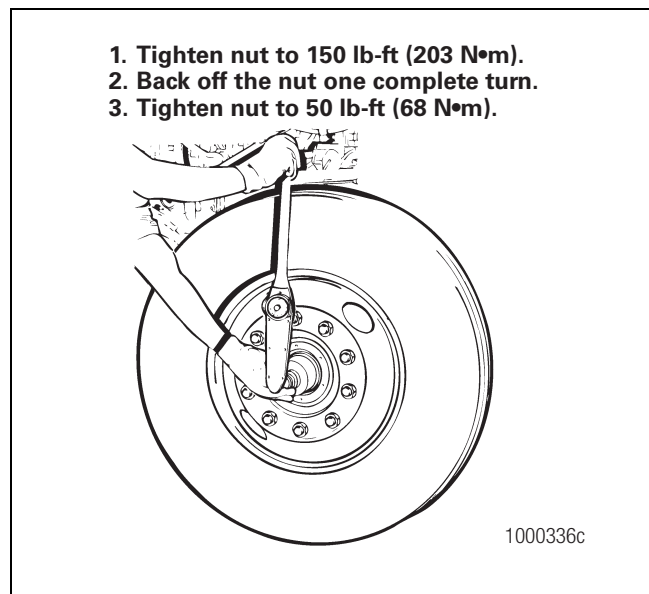

Figure 7.5
- Use a torque wrench to tighten the adjusting nut to 150 lb-ft (203 N•m) while rotating the tire a minimum of five revolutions. Figure 7.5.
- Back off the nut one complete turn. Tighten the nut to 50 lb-ft (68 N•m). Figure 7.5.